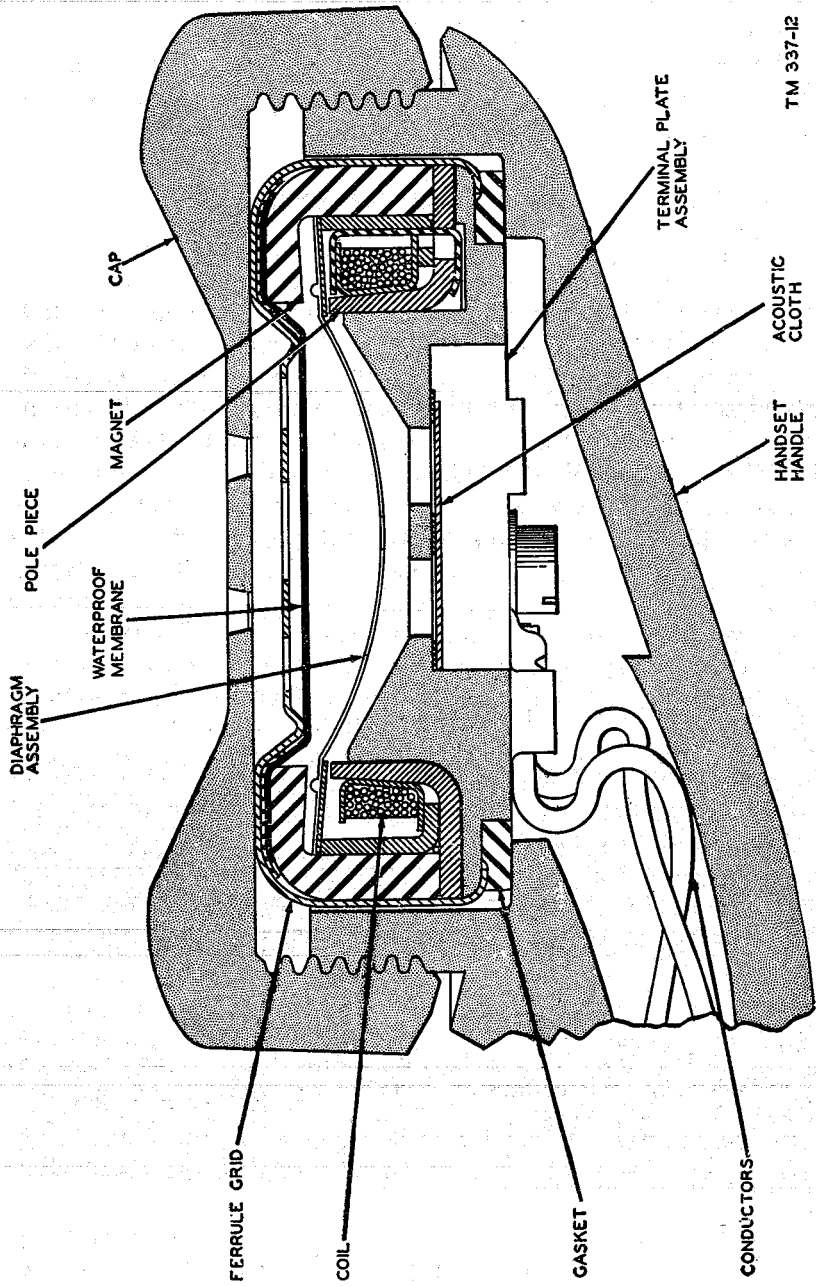

Figure 8. Telephone receiver element TA-235/PT, cutaway view.
44. Telephone Receiver Element TA-235/PT (fig. 8)